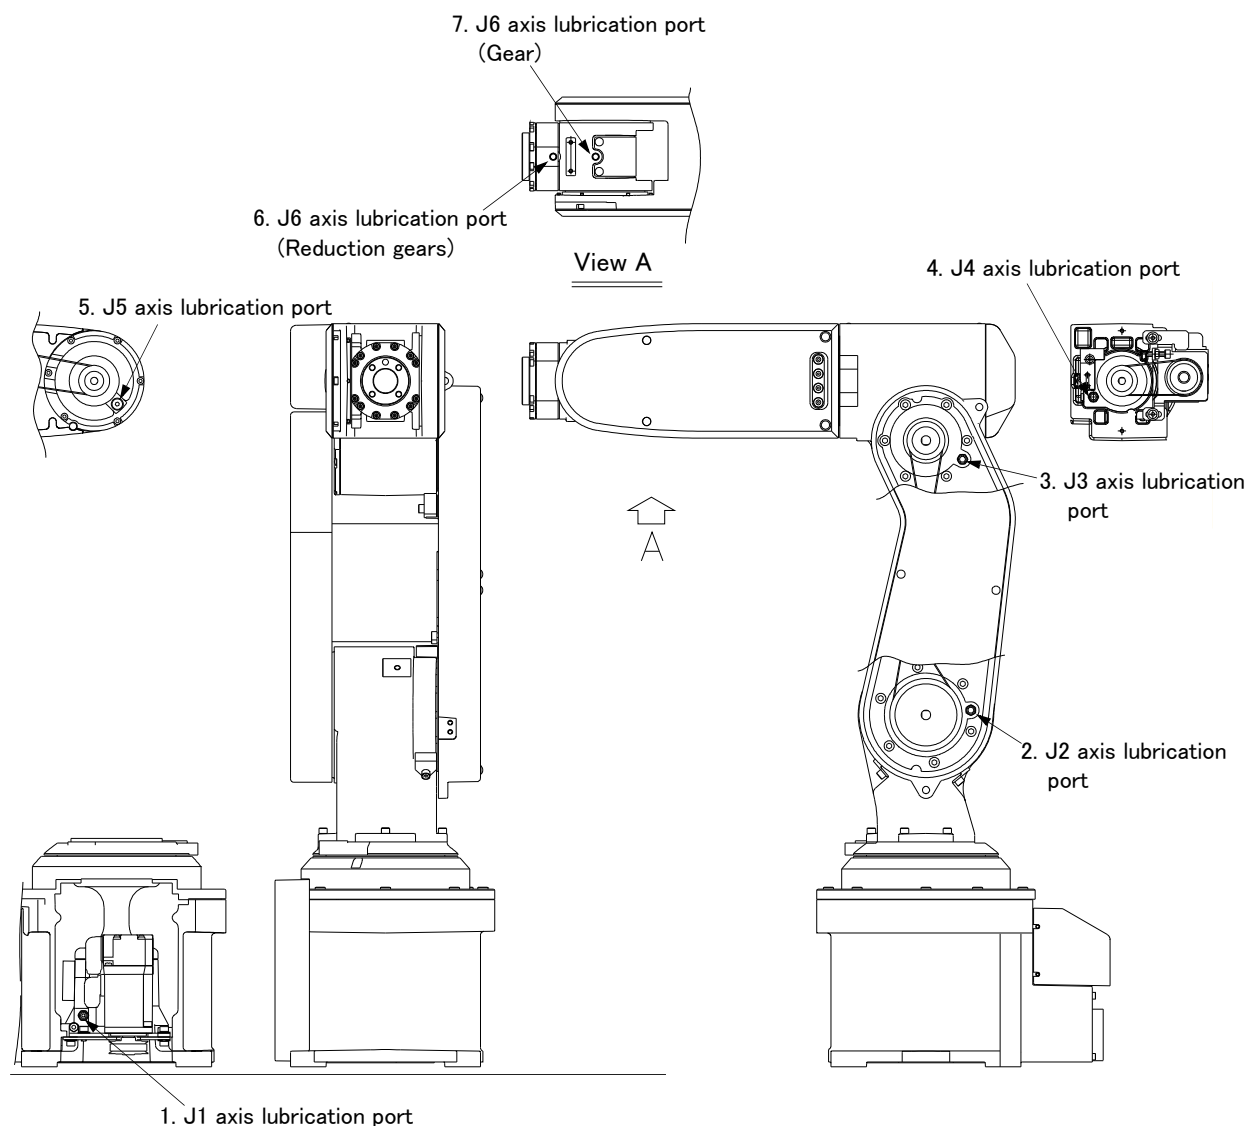

Fig.5-14 : Lubrication positions
The grease nipple position is shown in Fig. 5-14. The lubrication specifications for each place are shown in Table 5-4. Refer to the Page 49, "5.3.2 Installing/removing the cover" for the method of removing and installing the cover.
- The numbers in the Table 5-4 correspond to the supply positions in Fig. 5-14.
(2) Lubrication method
- 1) Set the robot to the posture shown in Fig. 5-14.